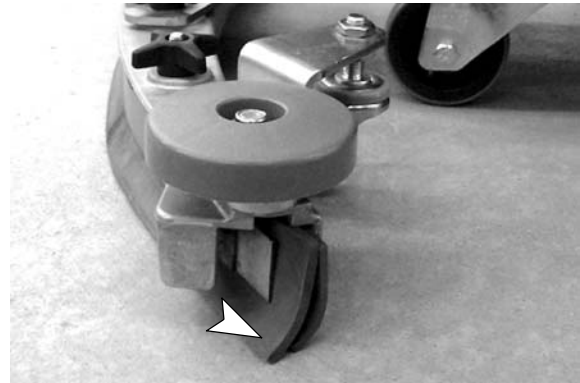

FIG. 55
3. During machine operation, with the casters properly adjusted, the squeegee blades should deflect as shown (Figure 55).